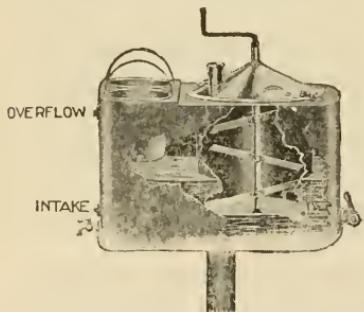

FIG. 66—MIXER AND GLUE HEATER
To prepare hot glue, break it into small pieces and soak for 12 hours in cold water before boiling. Always use a glue pot of the double boiler type, one of which is shown in Fig. 66. This has a mixer as well as the separate glue pots in which the glue is afterwards placed. It should be the consistency of thin syrup when applied.
71. Glue Heaters--The glue heater shown in Fig. 66 may be attached to a live steam pipe so as to heat the water for preparing the glue and keeping it heated, or have gas burners placed beneath it. In mixing glue, always keep in mind that glue which has been heated very many times loses its strength. For this reason no more should be mixed at a time than can be used with minimum number of re-hearings.